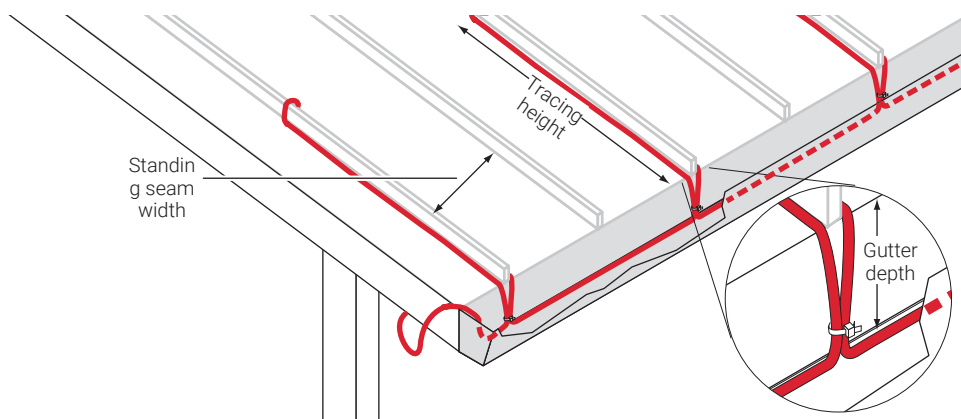

Figure 4 Layout on a standing seam roof
For sloped standing-seam metal roofs, ice dams may form at the roof edge. To maintain a continuous path for melt water to run off, route the heating cable along the seams as shown in Figure 4 and follow the attachment recommendations in Step 2. Additional heating cable may be needed for downspouts and valleys.
Note: Attachment methods are purposely not shown in Figure 4. For attachment methods, proceed to “Step 2. Attachment Methods” on page 11.
- Run the heating cable up one side of the seam, loop it over to the other side, and return it to the bottom of the gutter. Continue along the bottom of the gutter to the third seam and repeat the process (see Figure 4). If the metal roof panels are more than 24 inches wide, trace every seam along the roof edge.